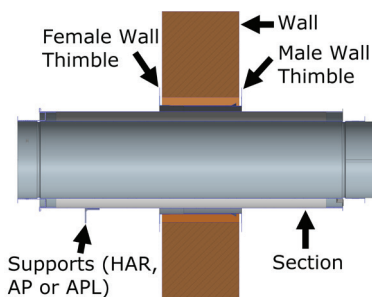

Figure 116: Supports for Chimney passing through a Wall
Chimney that penetrate wall have to be supported at least on one side of the wall, supporting the section that penetrates through the wall. It can either be supported by bracing a Half angle Ring (HAR), Anchor Plate (AP), or Anchor Plate Length (APL) See **Figure 116**